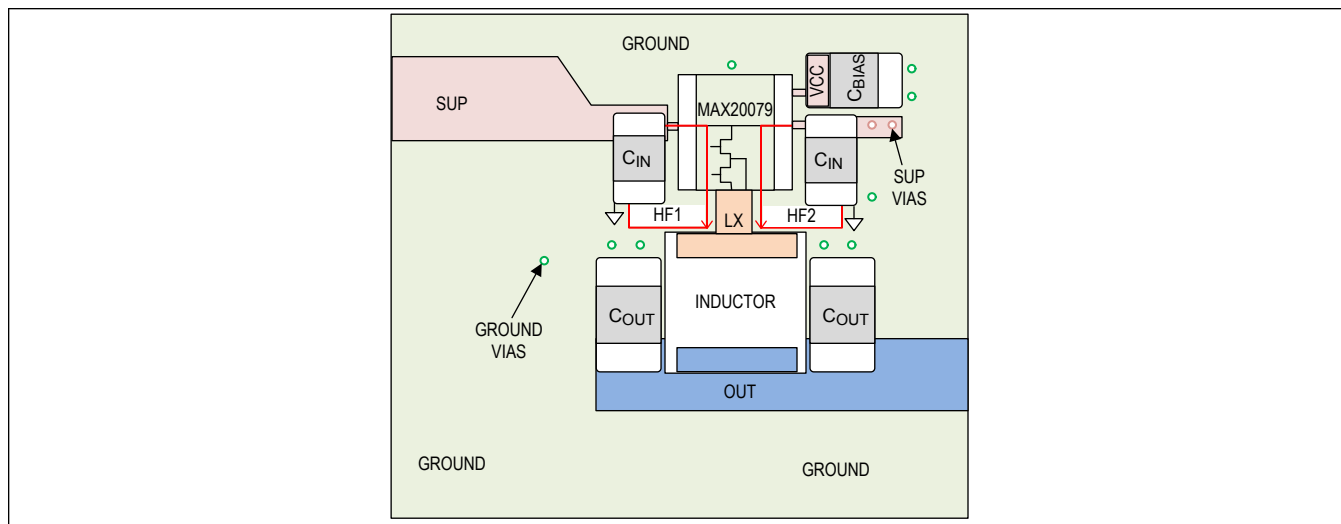

Figure 2. Recommended PCB Layout for MAX20079
- Place two high-frequency ceramic capacitors (C_{IN}) on two SUP pins, on opposite sides of the IC and close to the device. High-frequency AC current flows on the loop formed by the input capacitor and the half-bridge MOSFETs internal to the device (see Figure 2). A small loop would reduce the radiating effect of high switching currents and improve EMI functionality. Two capacitors placed on opposite sides create current loops in the opposite direction, which cancels the magnetic field to reduce radiated EMI.